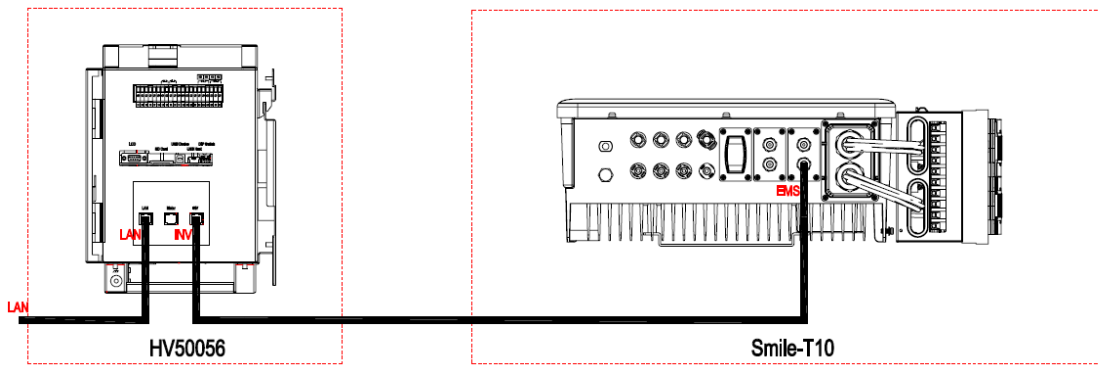

Figure 30 Connection of the Communication Cables on the Inverter Side
Step 19: Connect the communication cable between INV COM port of HV50056 and EMS COM port of the Inverter, as Figure 30 shows.